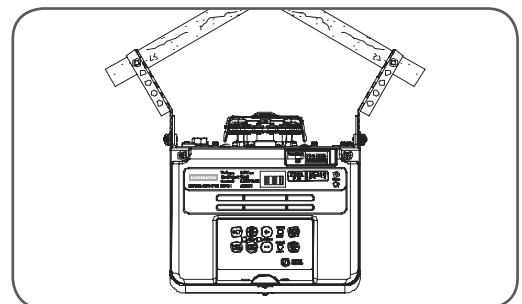

fig 11
- Secure the perforated angle (not supplied) to the ceiling above where powerhead's mounting holes will be once fully installed. A representative mounting is shown (**Fig. 11**)
- Secure the perforated angle (not supplied) to the ceiling above where powerhead's mounting holes will be. See (**Fig.11**) for a representative mounting.
- Connect the powerhead to the ceiling mounted perforated angle with M8x20mm screws and nuts. Strips should not extend more than 18mm below centre of powerhead mounting holes (**Fig. 11**).